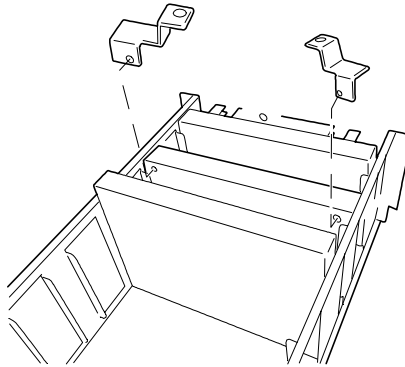

Figure 4-9. Installing the Latch Levers
6. Latch levers are provided with your system for easy removal of a processor cartridge or a termination board (see Figure 4-9) from your system. Install the latch levers on the upper right and left corners of the processor cartridge or termination board that is to be removed. Make sure that you fit the pin of each latch into the top corner hole of the processor cartridge or termination board so that the levers face each other. Then to remove a processor cartridge or termination board push both the left and right latch levers to an outside position, which in turn lifts the a processor cartridge or termination board in an upward motion out of its socket.